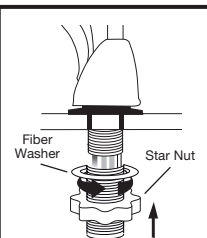

Figure 2
- ☐ From under sink, slide 38mm fiber washer over faucet base. Reinstall threaded extension onto the base until snug. Thread star nut onto extension until snug (See Figure 2).